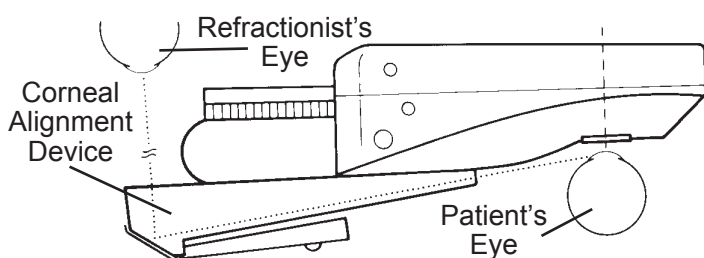

Figure OC-1 Corneal Alignment Device
8. In the Phoroptor, this condition is obtained when the zero setting of the sight in the Corneal Aligning Device is lined up with the apex of the cornea. Refer to Figure OC-1.